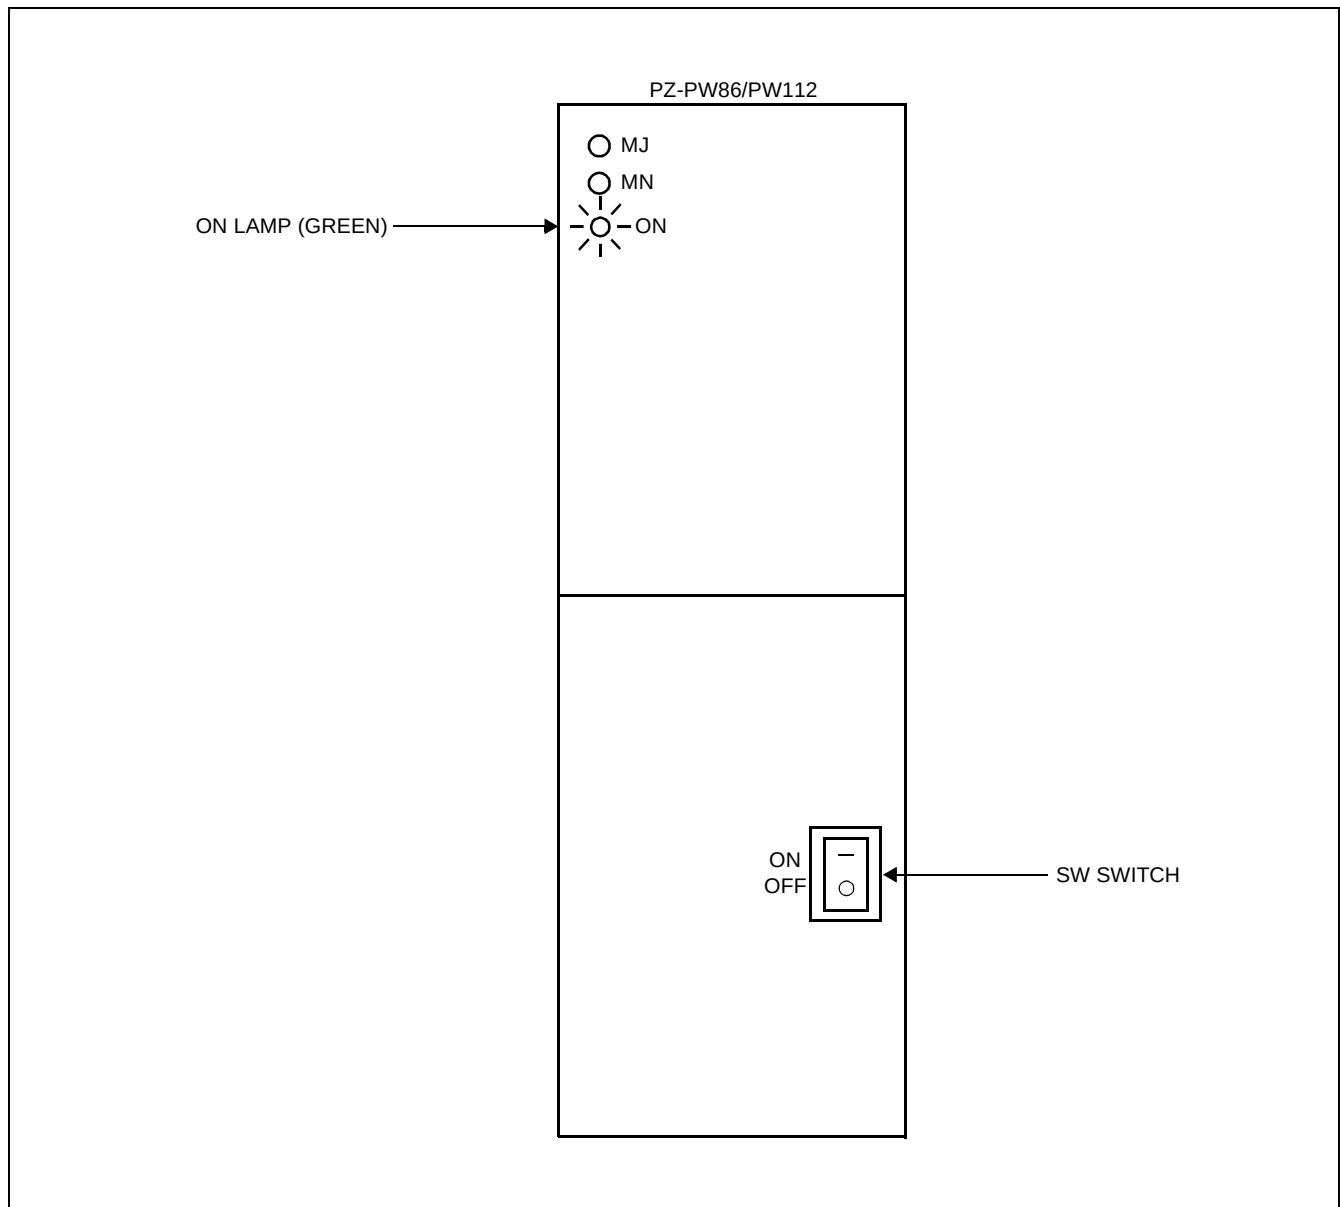

Figure 009-1 PZ-PW86/PZ/PW112 Card Lamp Indication
- (1) For testing, turn on “SW1” switch on the PZ-PW86/PZ-PW112 card. Make sure that “ON” lamp (green) is lit. See Figure 009-1.
- (2) Turn off “SW1” switch.